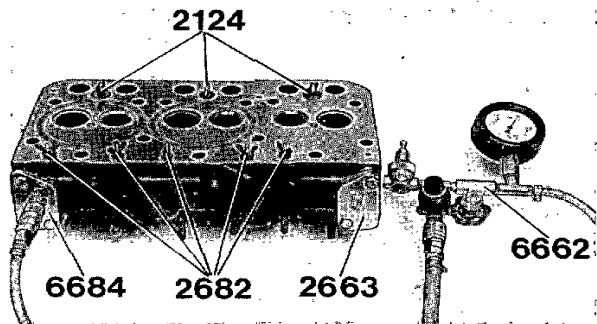

Fig. 38. Pressure testing cylinder heads, 70 series
**70 series:** Fit the expander plugs 2124 (3 pcs), resp. 2682 (5 pcs) according to fig. 38.